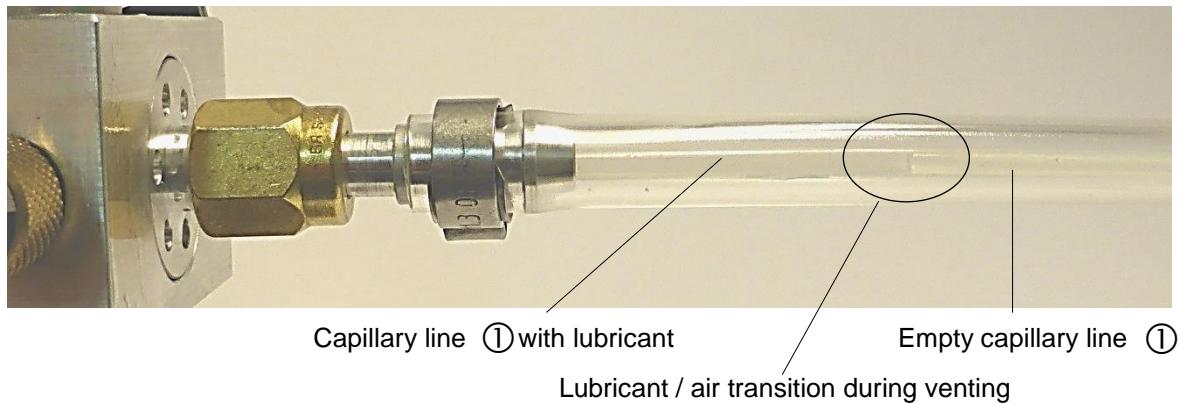

Fig. 19: Capillary line ① filling with lubricant during venting
8.2.6 Operate the piston rod by hand. To do this, press the end stop of the micro metering pump (Fig. 11) against the micrometer screw approx. 10 times. With no lubricant in the capillary line (Fig. 19 ① inner pressure hose of the coaxial feed line), lubricant can be seen to enter the capillary line after approx. 8 strokes and air is removed from the hydraulic system.